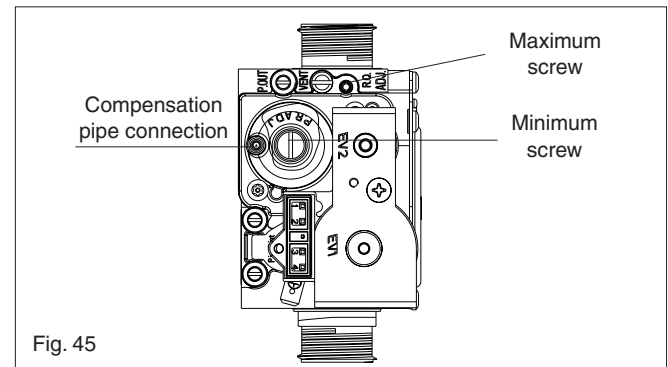

Fig. 45
- Using a suitable screwdriver, very slowly turn the maximum adjustment screw (see fig. 45) – clockwise to decrease, counter clockwise to increase – until the correct value is displayed on the CO₂ analyser (allow time for the analyser to stabilise).
- Using a 2,5mm Allen key, very slowly turn the minimum adjustment screw (see fig. 45) – clockwise to increase, counter clockwise to decrease - until the correct value is displayed on the CO₂ analyser (allow time for the analyser to stabilise).